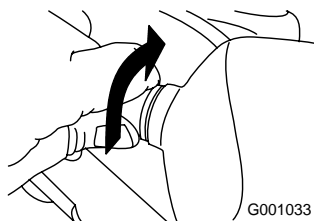

Figure 58
- Turn the base of the bulb counterclockwise until it stops (Figure 58).